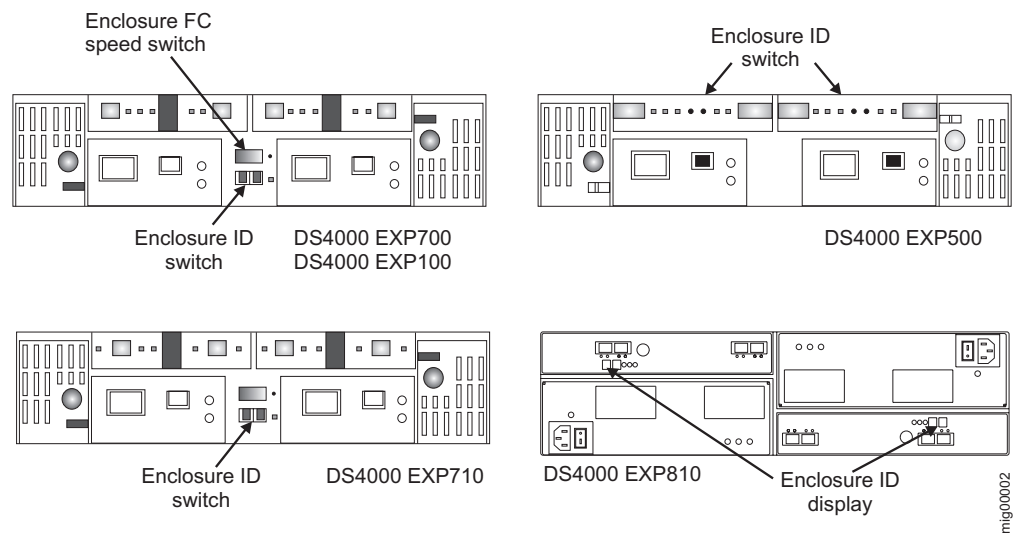

Figure 24. EXP100, EXP500, EXP700, and EXP710 enclosure ID and speed switches
- ___ Step 4. Set the enclosure ID of the additional storage expansion enclosures. Each drive enclosure in the DS4000 Storage Subsystem drive loop must have a unique drive enclosure ID. In a EXP500 storage expansion enclosure, there is an enclosure ID switch mounted on each of two ESM canisters. Set each ESM canister's enclosure ID switch in the EXP500 drive enclosure to the same unique number in the drive loop. In EXP100, EXP700, and EXP710 storage expansion enclosures, there is only one enclosure ID switch, which is mounted between the power supplies. The EXP810 does not have a physical switch setting for the enclosure ID. Instead it has a display that shows its enclosure ID. The controller firmware automatically sets the enclosure ID. However, you can change the enclosure ID by using the DS4000 Storage Manager Client program. See the appropriate *DS4000 Installation, User's, and Maintenance Guide* for the particular storage expansion enclosure for additional information. Figure 24 illustrates the location of enclosure ID switches on the EXP100, EXP700, EXP710, and EXP500 storage enclosures.